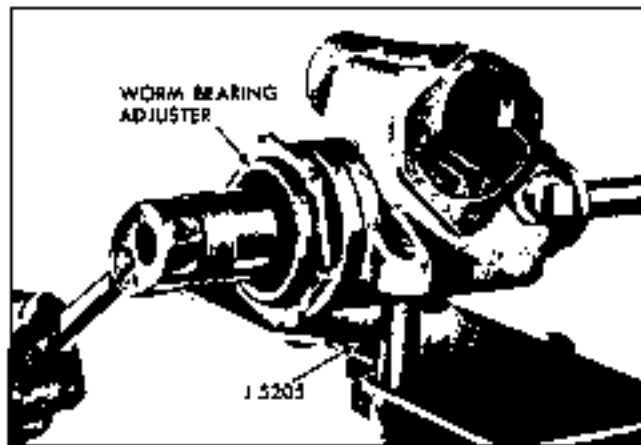

Fig. 9-53 Adjusting Worm Bearing Preload
b. If torque does not meet above specifications loosen worm bearing adjuster lock nut (Fig. 9-53) and turn adjuster to bring torque within 7 lb. in. limits.